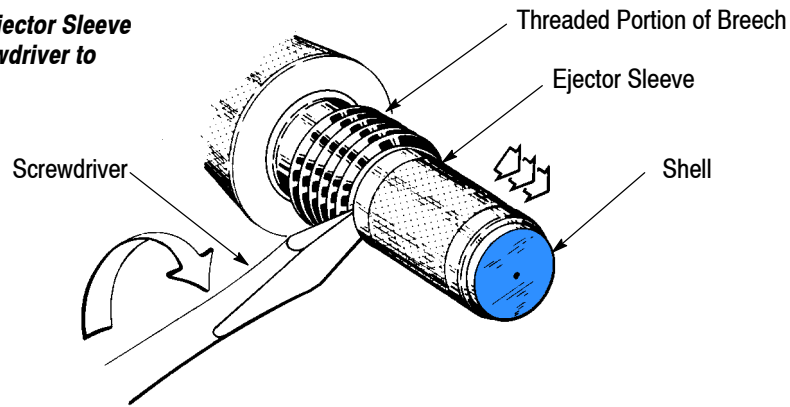

Figure 25
6. If gas has not released properly, considerable gas pressure may remain in the shell and the shell may stick in the breech. In the event that the shell sticks in the breech, point the open end of the breech away from yourself, place the end of a screwdriver between the end of the ejector sleeve and the threaded portion of the breech, and turn the screwdriver to eject the shell. See Figure 25.